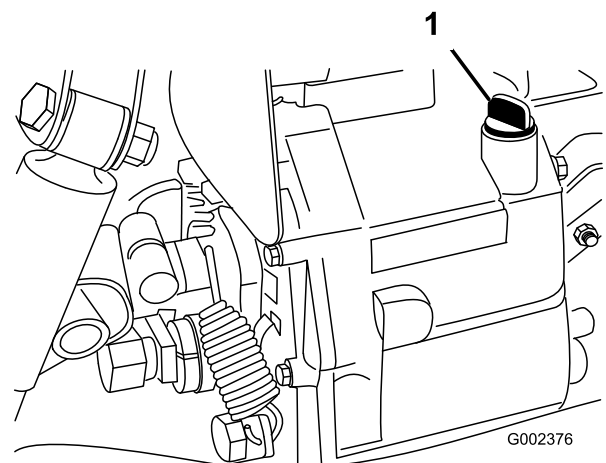

Figure 14
2. Clean the area around the dipstick (Figure 14).